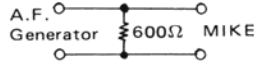
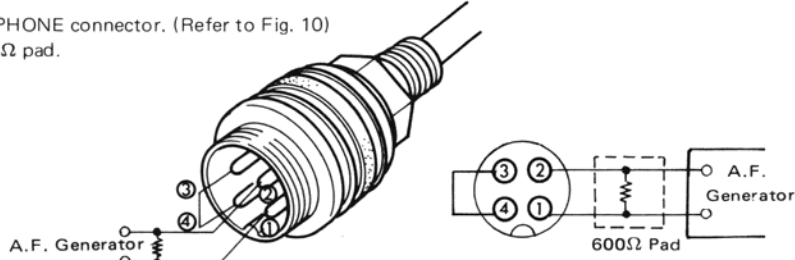

Fig. 9 600Ω Pad
Fig. 10 MIKE CONNECTOR Connection
- Connect the audio signal generator to terminals ① and ② on the MICROPHONE connector thru the 600Ω pad. (Refer to Fig. 9 and Fig. 10)
- Short terminals ③ and ④ on the MICROPHONE connector. (Refer to Fig. 10)